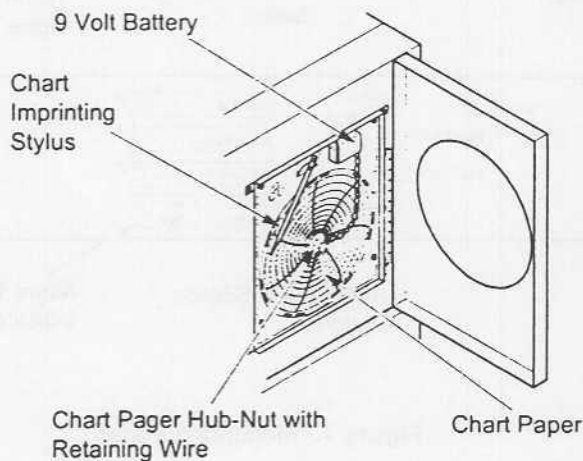

Figure 6. Recorder
Refer to Figure 6 for an illustration of the recorder indicators and buttons.
1. Open the Recorder door (refer to Figure 6 on page 15).